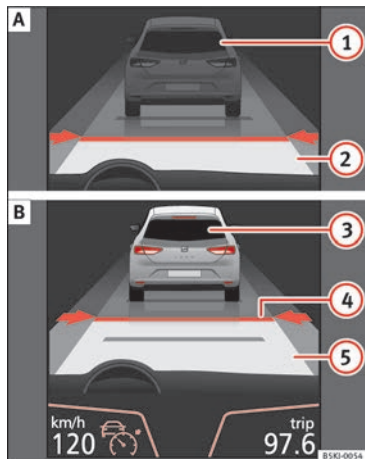

Fig. 163 On the instrument panel display: (A) ACC inactive (Standby). (B) ACC active.
Indications on the display »» **Fig. 163:**
When the Adaptive Cruise Control (ACC) is connected, the green control lamp (🚦) will light up on the instrument panel, and the programmed speed and ACC status will be displayed »» Fig. 163.
The programmed speed can be modified when the vehicle is stopped or while driving, as preferred. Any modification to the programmed speed is shown on the bottom left part of the instrument panel display » Fig. 163.
- To activate the ACC, press button **SET** or move the third lever of the ACC to position ② » Fig. 165. At this point, the image of the ACC on the instrument panel display will change from *Inactive* (Standby) mode to *Active* » Fig. 163 mode.